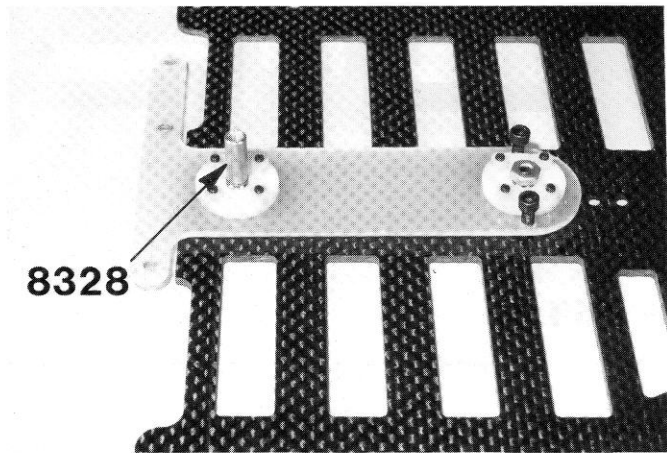
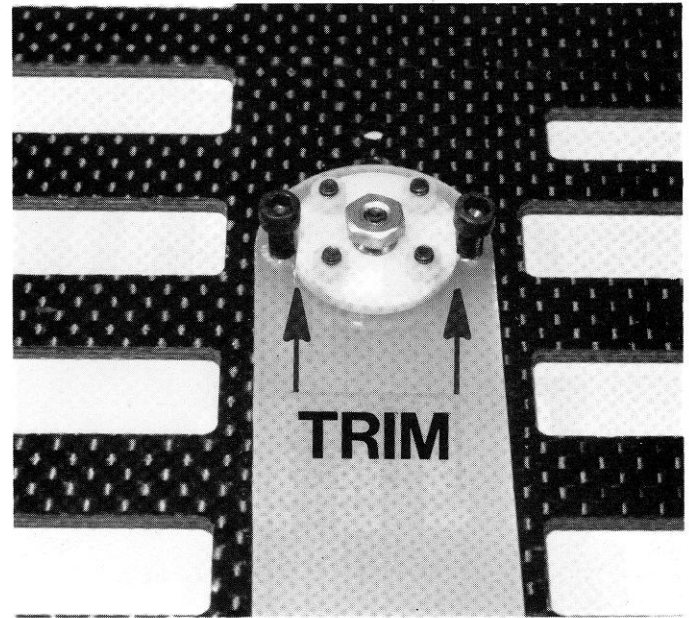

Fig. 18
Fig. 19
□ **Figs. 18, 19 & 20**— We'll want to install the two allen head 4/40 "tweak" screws next, but because we've narrowed the T-bar and moved the screws closer in, we'll have to trim off some of the white plastic pivot socket, as shown in Fig. 19, to clear the two screws.